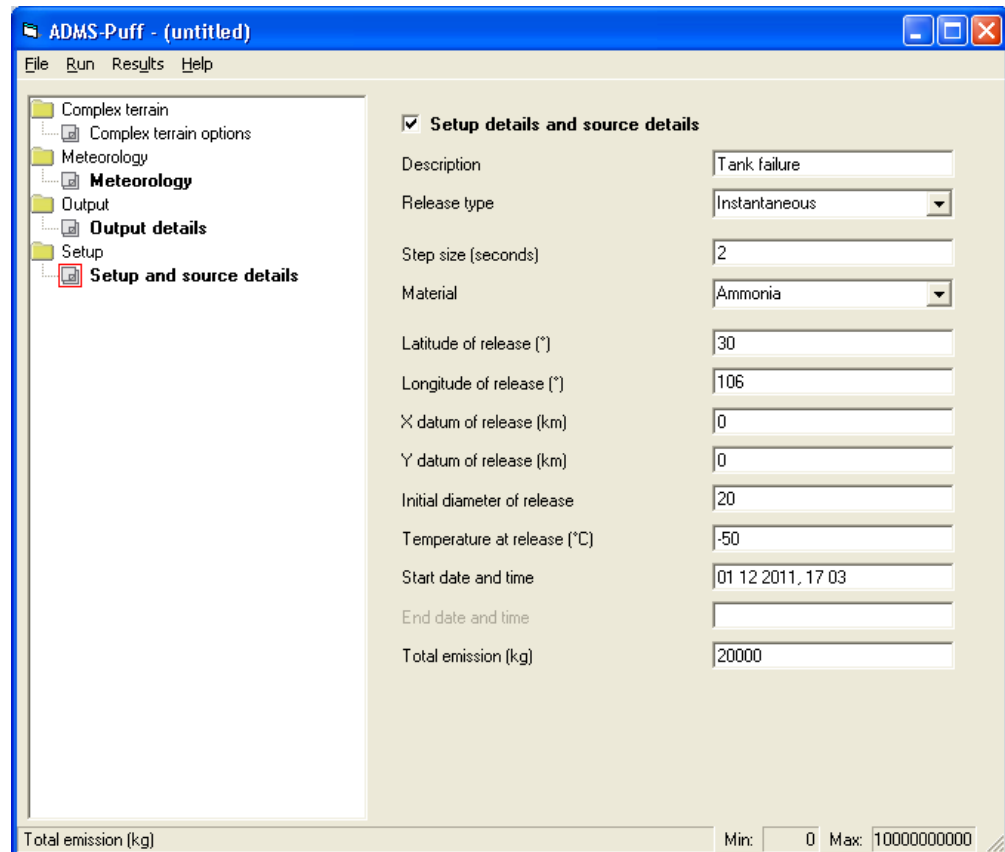

Figure 13: The setup and source details screen when completed.
- n. The Setup and source details are now complete and the screen is as shown in Figure 13.